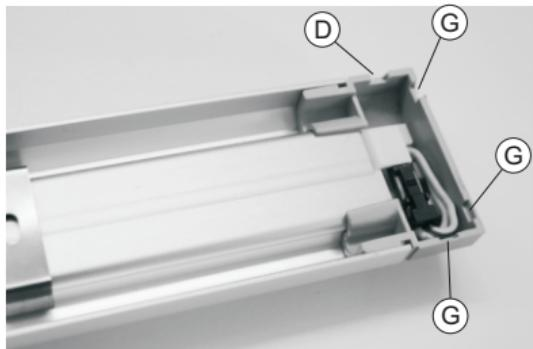

Fig 2
- Using pliers, break one of the four membranes (G) on the closing head located on the side of the intake cable (IN) to run the power supply cable as illustrated in figure 2.
- Connect the power supply cable (F) to the intake cable (IN) connector